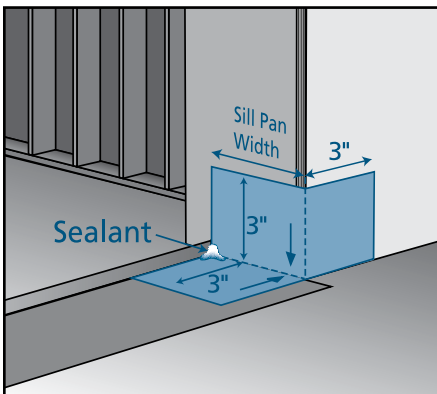

Fig. 8 Apply self-adhesive tape (continuous slab)
- Adhere to one bottom corner tightly at 90° with 3" up the side and wrap flashing onto wall sheathing (**Fig. 8**); do not stretch or tear flashing; eliminate as many wrinkles as possible.